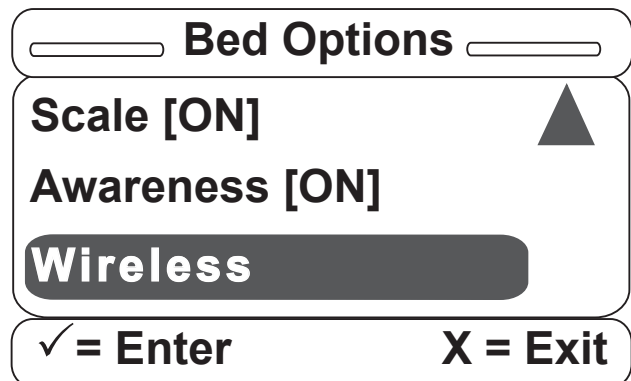

Figure S-18
18. Once the Awareness option is set, you will be returned to the Bed Options screen to set the next option, which is Wireless (Figure S-18). **Note that you can see the state of each option that you have previously set.** Select the Wireless option and press “Enter” on the footboard panel. If needed, press “Exit” to cancel the operation.